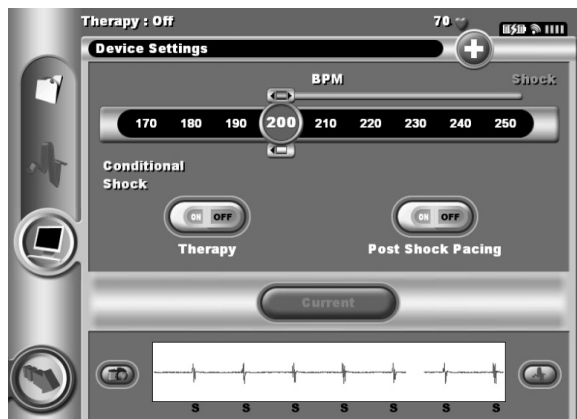

Figure 31: Device Settings screen
- Select the Device Settings button on the Navigation Bar to display the Device Settings screen (Figure 31).